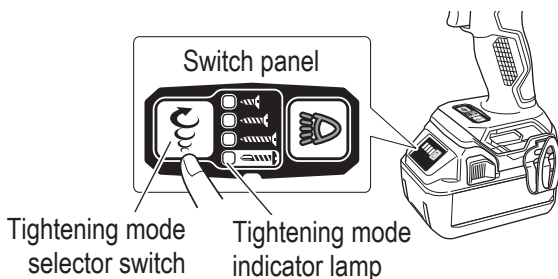

Fig. 14
(1) Tightening mode selector switch (Fig. 14)